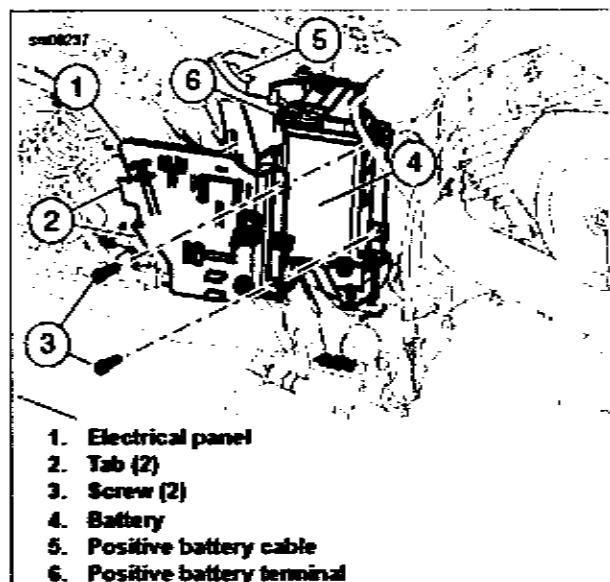
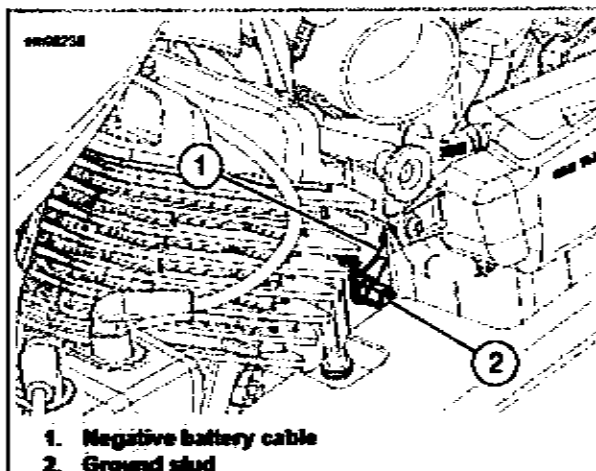

Figure 2-32. Battery
Figure 2-33. Battery Ground Cable
1. See Figure 2-32. Remove electrical panel.
- a. Remove screws (3).
- b. Remove electrical panel (1).
- a. See Figure 2-33. Remove negative battery cable (1) from ground stud (2).
- b. See Figure 2-32. Remove positive battery cable (5) from positive battery terminal (6).
- c. Remove battery (4).
2. See Figure 2-32. Install battery.
- b. Install battery (4) in battery box.
3. See Figure 2-32. Connect battery.
- a. Connect positive battery cable (5) to positive battery terminal (6). Tighten to 10-15 N·m (7-11 ft·lb).
- b. See Figure 2-33. Connect negative battery cable (1) to ground stud (2). Tighten to 10-15 N·m (7-11 ft·lb).
4. See Figure 2-32. Install electrical panel.
- a. Install electrical panel (1).
- b. Verify electrical panel tabs (2) are inserted into slots.
- c. Install screws (3). Tighten to 10-15 N·m (7-11 ft·lb).